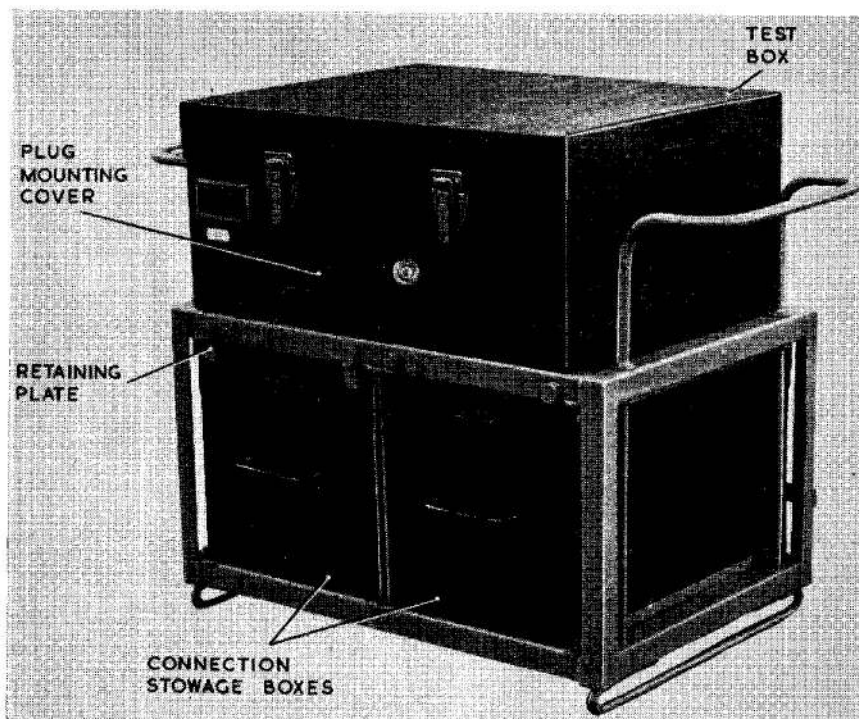

Fig. 1. Portable bomb circuit test set
2. The equipment, which is designed for ease of transportation, comprises a test box and connector storage boxes supported in a frame (fig. 1). The test box contains a uniselector, relays and banks of indicator lamps, which load the various aircraft circuits and give indication of satisfactory functioning. Connectors are provided for connecting the test box to the aircraft carrier stations and when not in use are stored in boxes below the test box (fig. 1). Facilities for connecting a recorder to the test box are provided to enable the quality of the release pulses to be checked.